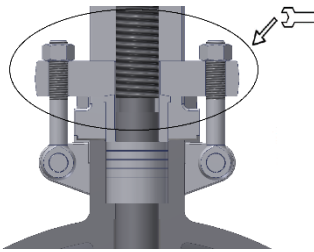

Fig.2 Stem packing gland tightening
- The valve stem packing should be the subject of particular attention as it is important for the qualitative maintenance of tightness and shall be checked every 3 months. If leakage at the stem packing is detected, the gland nuts should be tightened slowly (Fig. 2). When gland nuts are tightened, if the gland falls down more than twice the packing ring height, new packing rings should be added to the stem packing.